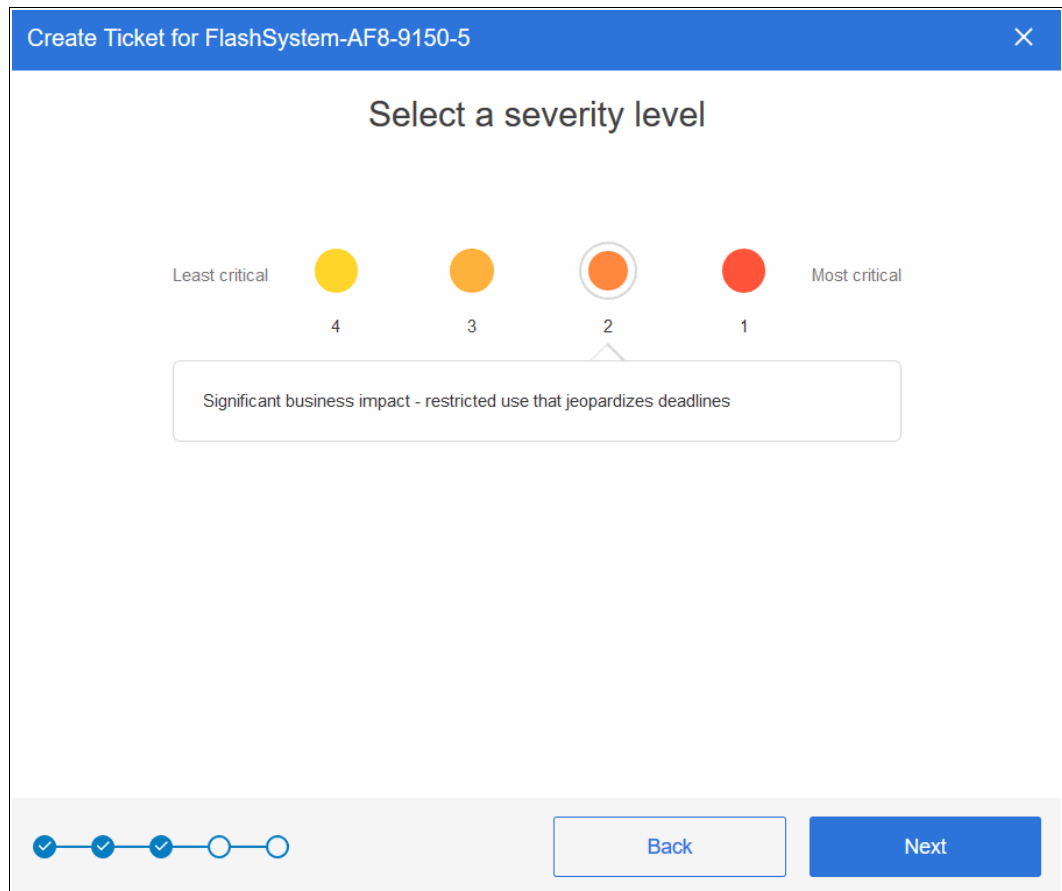

Figure 13-87 Selecting a Severity Level window
4. You can select a severity for the ticket. Examples of what severity you should select are shown in Figure 13-87. Because in our example there are storage ports offline with no impact, we select severity 2 because we lost redundancy.